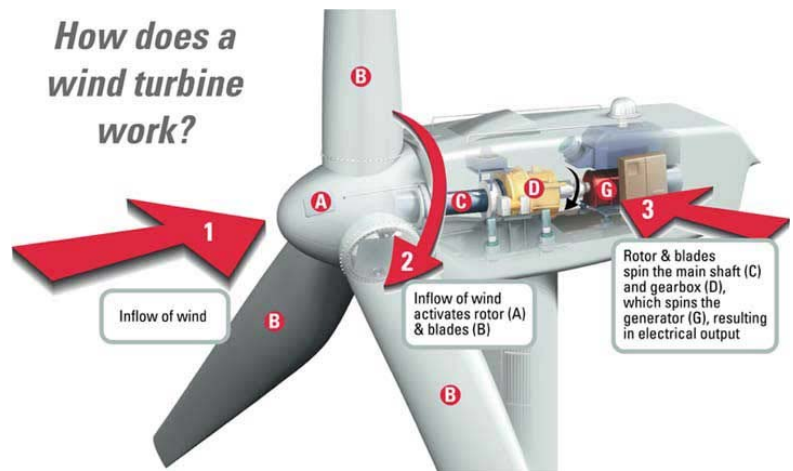

Figure 1, *Understanding Wind Power*, from TechieNation.com
Much like windmills that harness the energy of wind to pump water from a well, a modern wind turbine harnesses the energy of wind to create electricity. In 2003, the United States received approximately 5% of its electricity from wind power. The U.S. Department of Energy predicts that number to grow to 20% by 2030. To reach this percentage, energy companies must build wind farms (numerous wind turbines concentrated in a geographic region). Landowners will lease to these companies the right to construct wind turbines on their property. To operate, a wind turbine must have (1) adequate wind, (2) rotors (blades) and a shaft, and (3) a generator. (See Figure 1.)
Modern turbines come in two main forms: vertical-axis wind turbines (VAWTs) and horizontal-axis wind turbines (HAWTs). VAWTs have vertically mounted rotor shafts. These units require less wind than HAWTs but produce less electricity and have higher maintenance costs. HAWTs (Figure 1) have horizontally mounted rotor shafts. These are the predominant type of wind turbines used by wind farms. The blades are similar to airplane wings. When wind hits the blades, a pocket of low-pressure